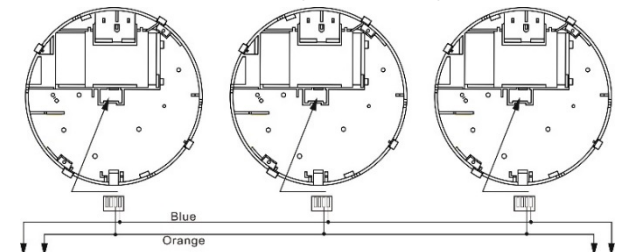

Fig. 7 – Interconnect wiring termination
- Install the interconnect wiring as shown in Fig. 7.